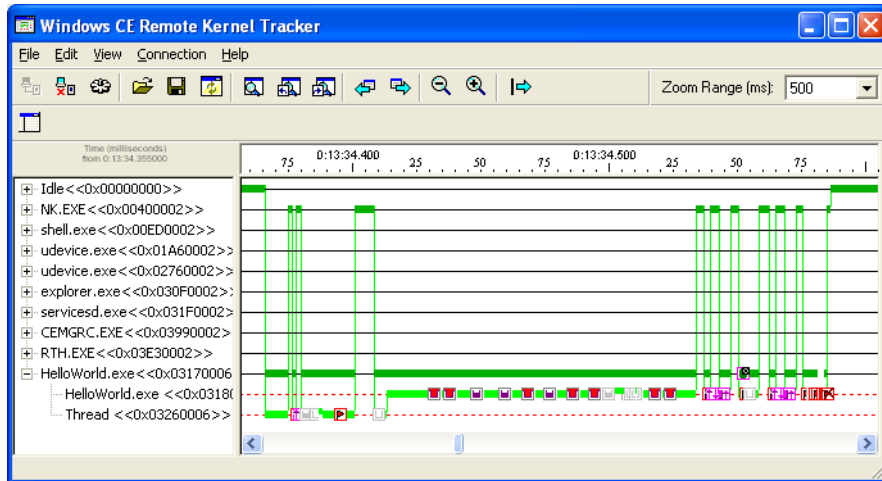

Figure 3-11 Tracking thread execution in Remote Kernel Tracker tool
- Start the HelloWorld application and follow the thread execution in the Remote Kernel Tracker window, as illustrated in Figure 3-11.